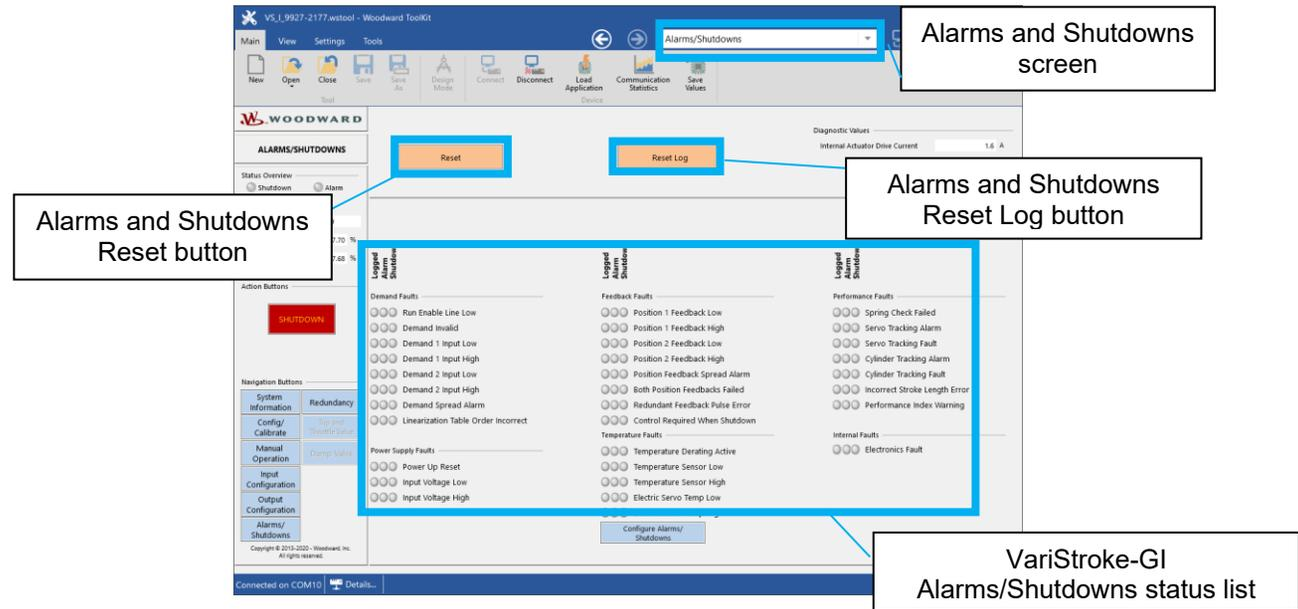

Figure 2-78. Alarms and Shutdowns Screen
66. Using the Customer Service Tool software, navigate to the Alarms/Shutdowns screen and click the **Reset** button to reset Shutdowns/Alarms on the newly installed VariStroke (Figure 2-78).
67. Reset the Alarms/Shutdowns logged events in the newly installed VariStroke by pressing the **Reset Log** button (Figure 2-78).
68. Verify there are **no alarms** and **no shutdowns** on the newly installed VariStroke (Slave Unit) (Figure 2-78). If not, verify what the cause of the issue is with the unit.